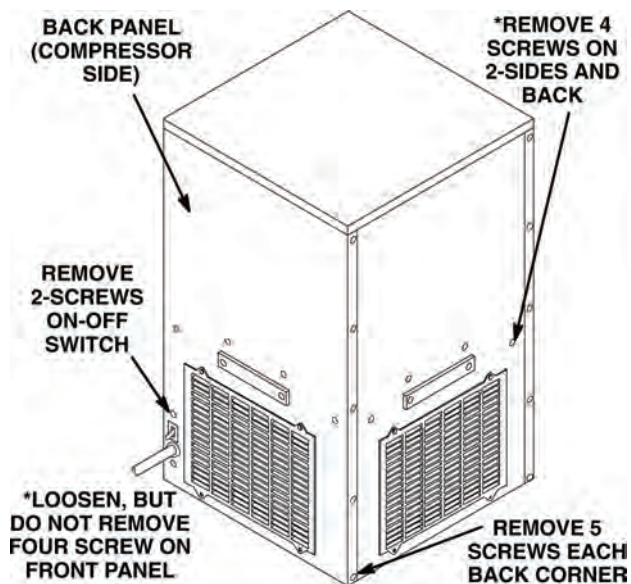

Figure 2.
5. Remove back panel for access to the compressor, See Figure 2.